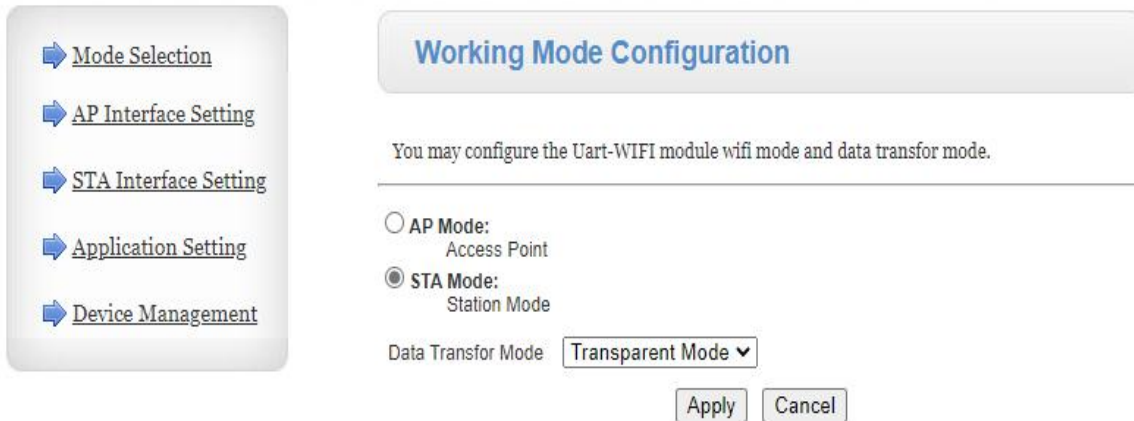

Figure 61
Step 2: Enter user name: admin and password: admin. Press Enter to enter the configuration interface of the web page, as shown in Figure 61 below.